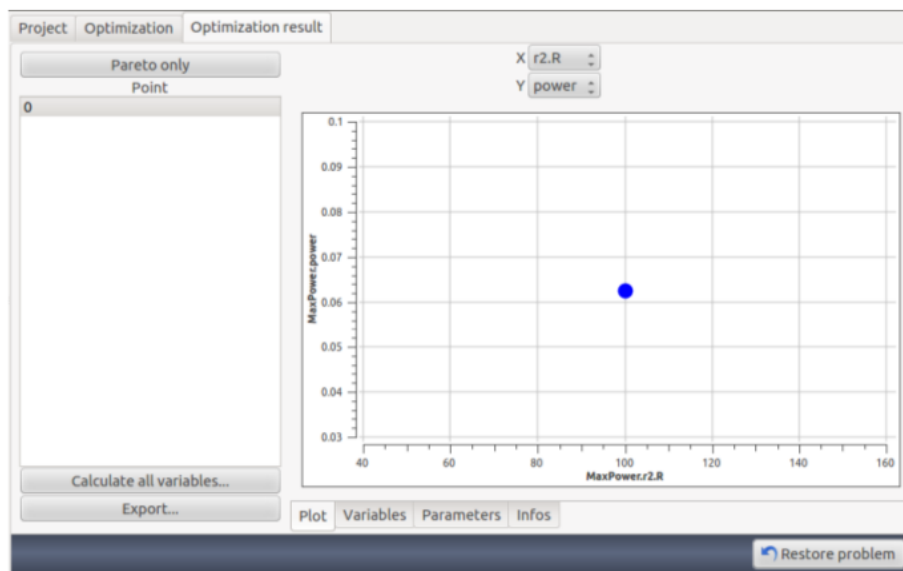

Figure 10.11: Optimised value of resistance for maximum power
- Depending on the type of algorithm, the time for optimisation varies. Optimised result is graphically displayed as shown in Fig. 10.11.